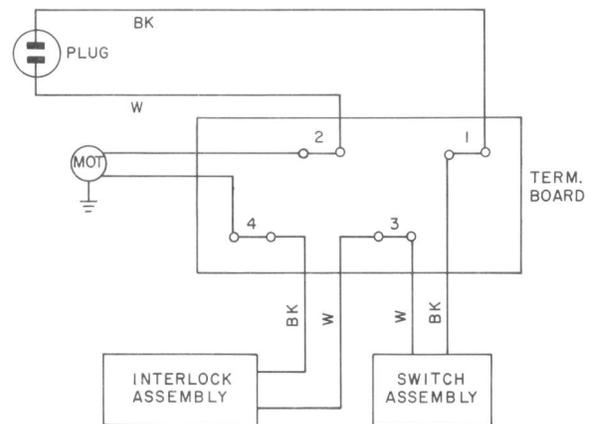

Fig. 7—KS-16797, List 9 Blower Assembly-Connections
- Connect ohmmeter to terminals 1 and 2 of terminal board (Fig. 7).
- (5) Operate BLOWER switch to ON position.
- (6) Check blower switch assembly as follows:
- (a) Connect ohmmeter to terminals 1 and 3 of terminal board (Fig. 7).
Inspect the blower switch and interlock switch assemblies. If their condition is good, connect their leads to terminal board per Fig. 7; if their condition is questionable, replace as directed in 9.03 or 9.04.
- (1) Tie a wire or string to the switch assembly leads at the end disconnected from the terminal board.
- (2) Remove and retain two No. 8-32 by 5/8 RH self-tapping screws which secure switch assembly to corner post.
- (3) Pull switch assembly until leads are removed from wire channel and wire or string is exposed.
- (4) Untie wire or string from leads of old switch and tie to leads of new switch.
- (5) Pull wire or string and feed switch leads through wire channel to terminal board. Untie wire or string.
- (6) Mount switch in position on post and secure it with the two screws retained in (2).
- (7) Connect leads to terminal board per Fig. 7.
- (2) Remove and retain two No. 6-32 by 1-1/16 BHM screws, two No. 6 lockwashers, and two No. 6-32 hex nuts which secure switch assembly to track assembly.
- (3) Repeat 9.03, (3), (4), and (5).
- (4) Mount switch in position on the upper surface of the track assembly with its operating bracket extending through the track.
- (5) Secure switch to track assembly using hardware retained in (2); lockwashers and hex nuts shall be on top side of track.
- (6) Connect leads to terminal board per Fig. 7.